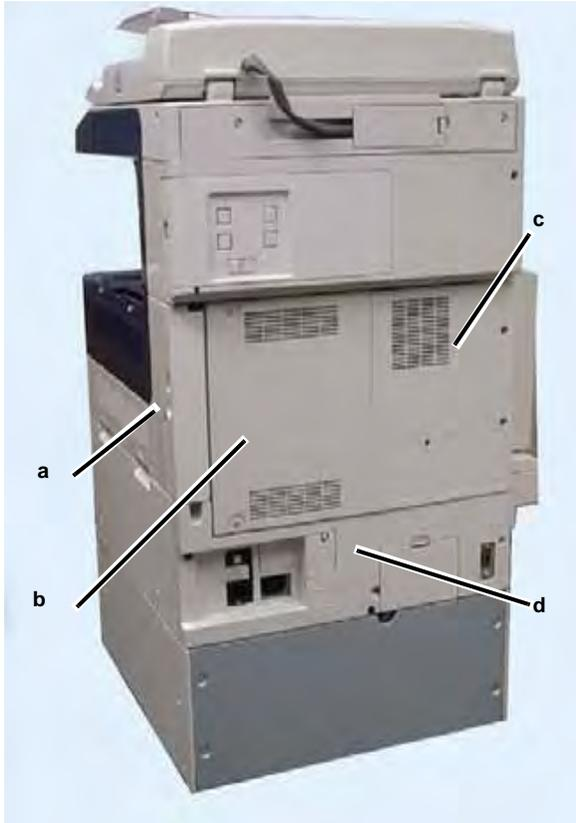

Figure 1 Removing Covers
2. Remove the following covers (Figure 1).